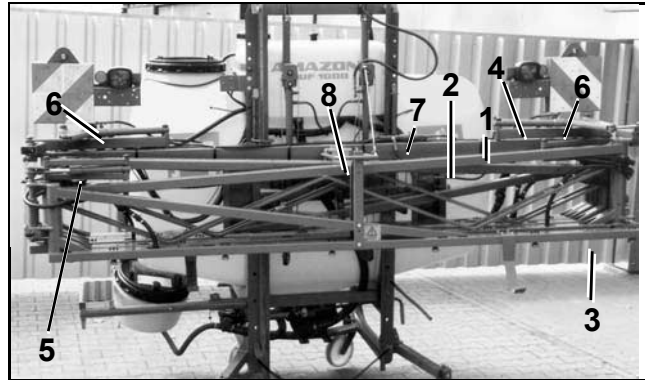

Fig. 51
- The folding speed of the boom can be changed on the throttle valves (Fig. 51/6).